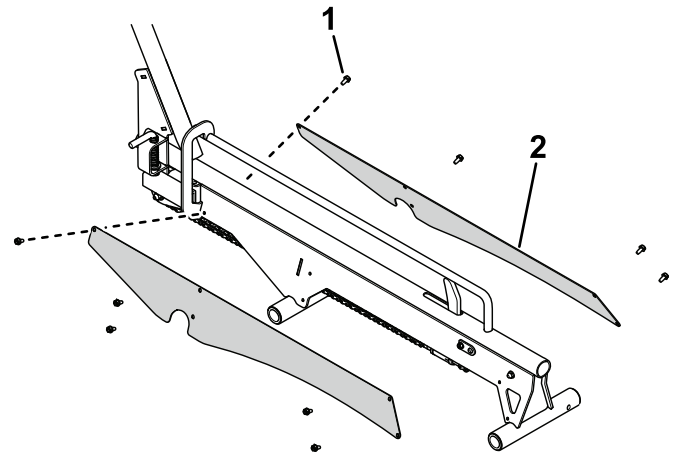

**Figure 7**
9. Use a chain link to connect the chain to the ramp assembly (Figure 7).